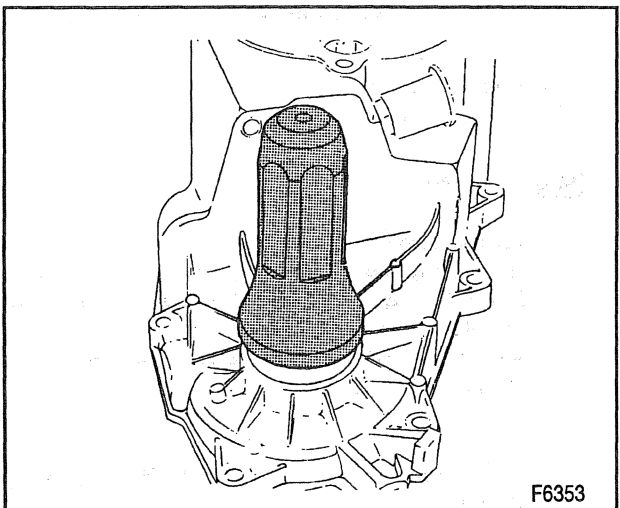

Figure 11—Installing the Output Shaft Oil Seal
- B. Install the seal using the proper tool (figure 11).